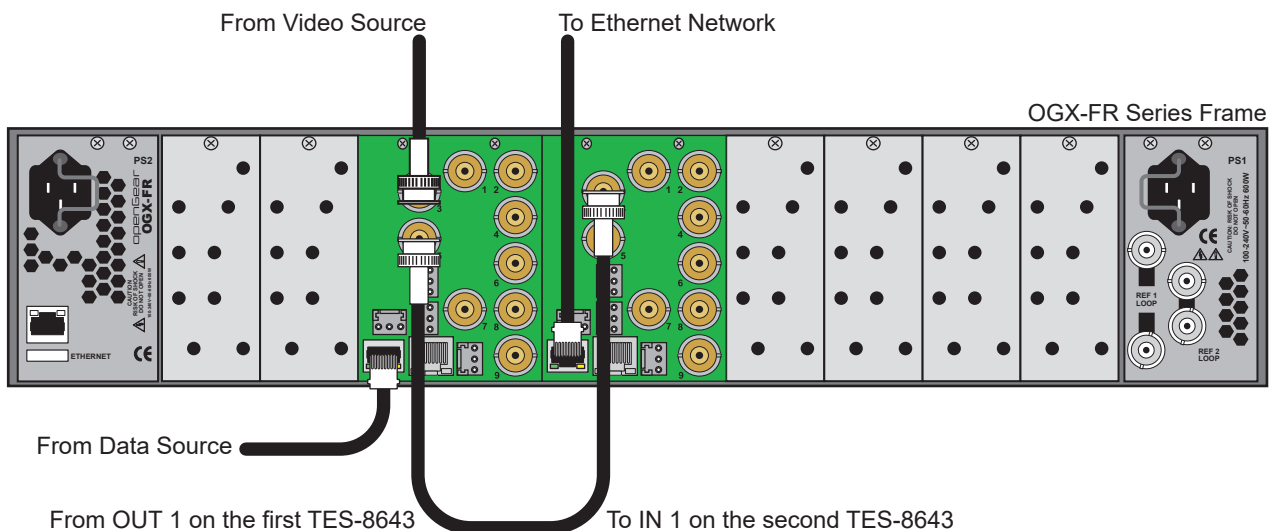

Figure 12.2 Connections between the TES-8643
3. Connect the **OUT 1** BNC on the first TES-8643 to the **IN 1** BNC on the second TES-8643. (**Figure 12.2**)
4. Connect the **IN 1** BNC on the first TES-8643 to the video source. (**Figure 12.2**)
5. Connect the Data Source and the first TES-8643 to the Ethernet. (**Figure 12.2**)